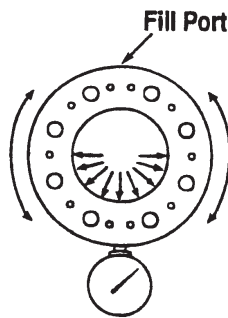

Figure 2
5. Orient the assembly with the gauge down, as shown in Figure 2.